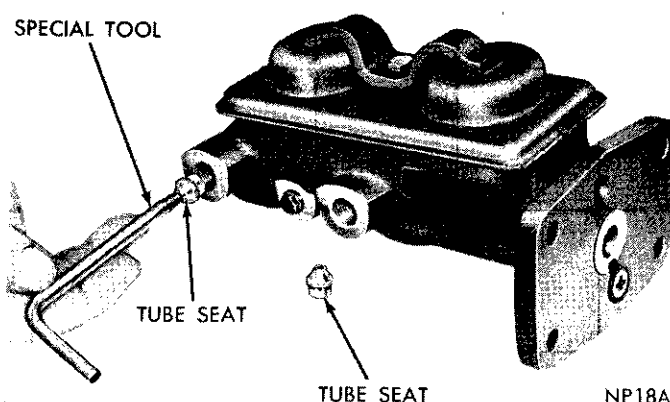

Fig. 2—Removing Tube Seats
(6) Using Tool T-109-178 (or an easy out) remove tube seats by threading tool firmly into seat, tap tool and seat out of cylinder body, (Fig. 2). Discard seats.